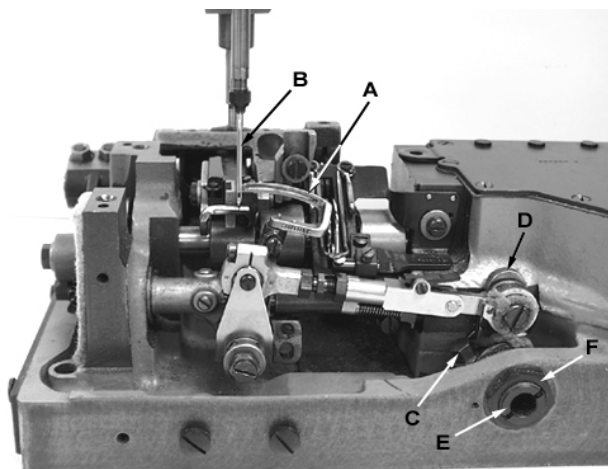
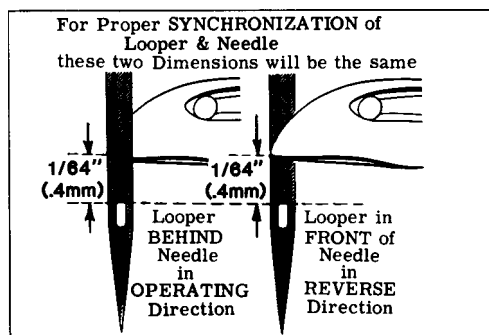

Fig 4
Fig 4A
Turn handwheel in the operating direction until the point of the looper (A, Fig. 4) moving to the left, is even with the left side of needle (B). Note the height of the eye of the needle with respect to the looper point (See Fig. 4A). Turn the handwheel in the reverse direction until the point of the looper again moving to the left, is even with the left side of needle (See Fig. 4A). If the height of the eye of the needle with respect to the looper point are the same, looper and needle motions are synchronized - a variation of .005 inch (.127mm) is allowable. If the distance from the eye of the needle to the point of the looper is greater when the handwheel is turned in the operating direction, the looper drive lever rocker shaft will have to be moved slightly towards the rear. Moving the shaft towards the front acts the reverse.
The 1/64 inch (.4mm) dimension shown in Fig. 4A is for final setting of needle bar height.
Loosen screw (C, Fig. 4) in looper drive lever (D). A rod of .146-40 thd. or Union Special Screw No. 99271 can be threaded into the looper drive lever rocker shaft through the center of thrust adjusting screw (E). Tap or pull slightly as required to position shaft for proper synchronization. Tighten screw (C) securely and remove rod or screw used to position shaft.